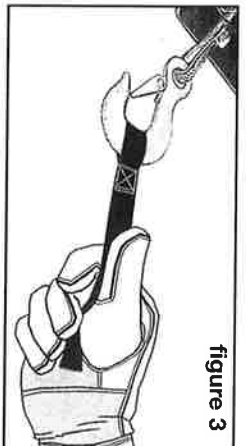

figure 3
7. PORTEZ DES GANTS EN CUIR ÉPAIS lorsque vous manipulez le câble métallique. NE LAISSEZ JAMAIS LE CÂBLE GLISSER DANS VOS MAINS, MÊME SI VOUS PORTEZ DES GANTS. UTILISEZ TOUJOURS LA SANGLE DE SÉCURITÉ lorsque vous tenez le câble pendant qu'il s'enroule ou se déroule (figure 3.)
1. KEEP A TIGHTLY WOUND WIRE ROPE DRUM. Keep the wire rope tightly and evenly wound on the drum all the time. Do not allow the wire rope to become loosely wound. A loosely wound drum allows a wire rope under load to work its way down into the layers of wire rope on the drum. When this happens, the wire rope may become wedged within the body of the windings damaging the wire rope. A good practice is to rewind the wire rope under tension after each use. Apply tension using hand saver strap (Figure 3) and ALWAYS wear gloves.